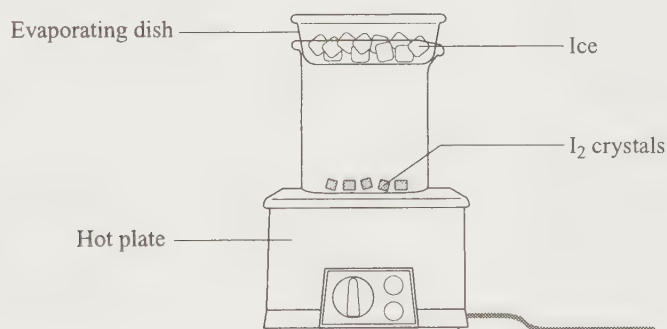

FIGURE 2
5. Inspect some iodine crystals, I_2 . Place a few of the crystals in a dry 250-mL beaker and cover with an evaporating dish that contains ice, as shown in Figure 2. In a fume hood, place the beaker on a hot plate set to medium. Observe and record any changes.